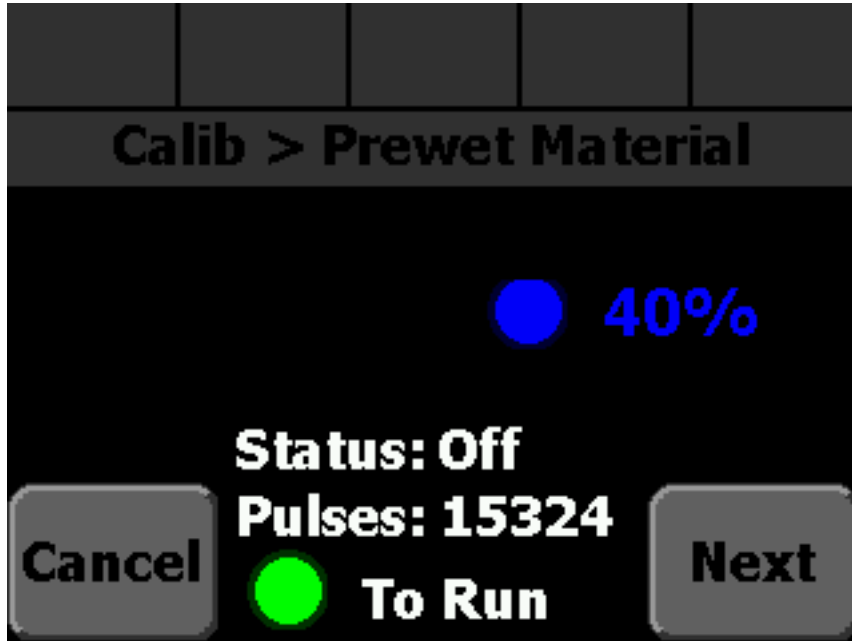

Figure 8: Prewet AutoCal Screen after running
STEP 11: Press the green, Standby knob to stop dispensing liquid. The status should change to "Off", as shown in Figure 8. If your system is an Open Loop system the pulses will be 0.